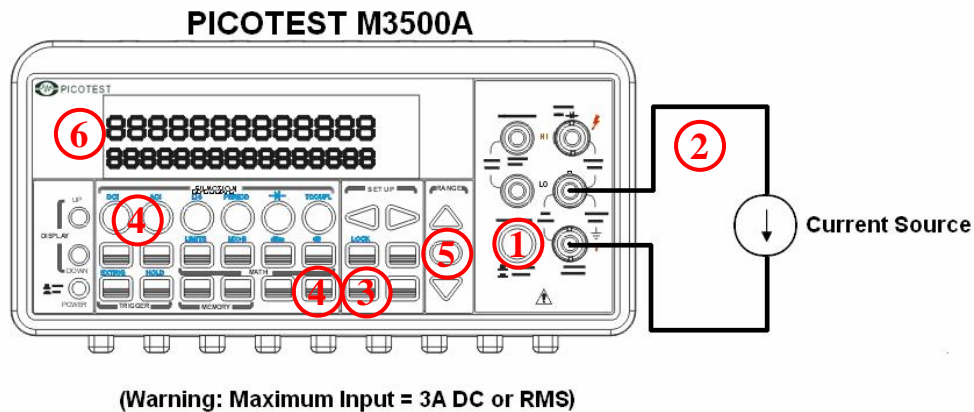

Figure 3-4
The ranges for DC current measurements in M3500A are 10mA, 100mA, 1A and 3A. For AC current measurements, the range is 1A with a sensitivity of 1 μ A to 3A AC-Coupled TRMS with a sensitivity of 10 μ A. **Figure 3-4** and **3-5** show you how to measure DC/AC currents in M3500A.
- ① Selects input signal connections on front or rear panel.
- ② Connect the test leads to the terminals as shown in **Figure 3-4**.
- ③ Set RESOLUTION of DCI (Refer to 4.1.3), BANDWIDTH of ACI (Refer to 4.1.2.1) or skip this step if default is to be used.
- ④ Press SHIFT+DCV or SHIFT+ACV buttons for DCI or ACI measurement.
- ⑤ Select the auto-range function by pressing AUTO button on the front panel or use \triangle and ∇ buttons to select desired range.
- ⑥ Connect test leads to your source signal and observe the reading shown on the display. If the input signal is greater than the allowed range, an overflow message "OVLD" will be displayed.